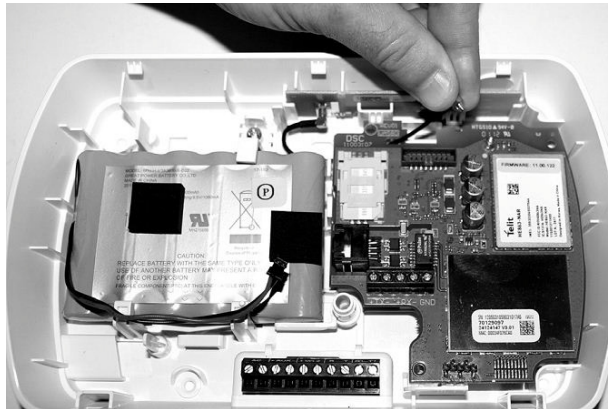

Figure 1 - Removing the Cable
- To remove the cable, grasp the end cable connector and lift straight up, as shown in Figure 1.